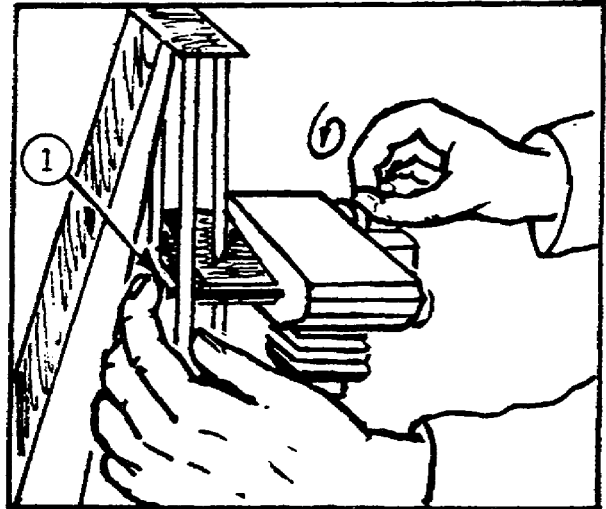

Figure 1-22. Unloading the Camera.
i. To unload the camera, you must first press the rewind button 1 - located to the left on the back of the camera (fig 1-22). Press the extension shaft and hold it down while, with the other hand, unfold the rewind crank handle and turn it in the direction indicated by the arrow on the handle until all the film has been wound back into the film cassette. Then open the camera back and remove the film cassette.